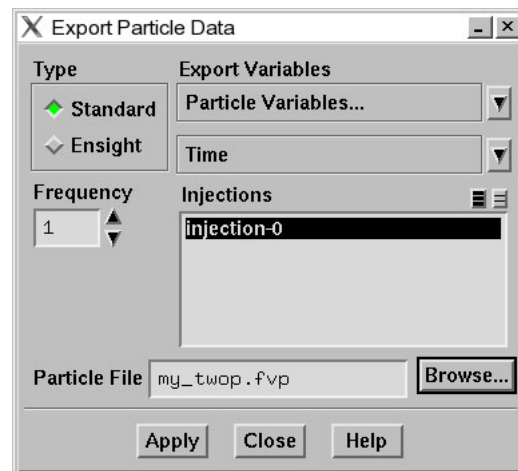

Figure 56 Export Particle Data Panel
3. Open the Export Particle Data panel available in the Solve/Particle History sub-menu (**Figure 56**). Choose the injection that you want exported and click on Apply.